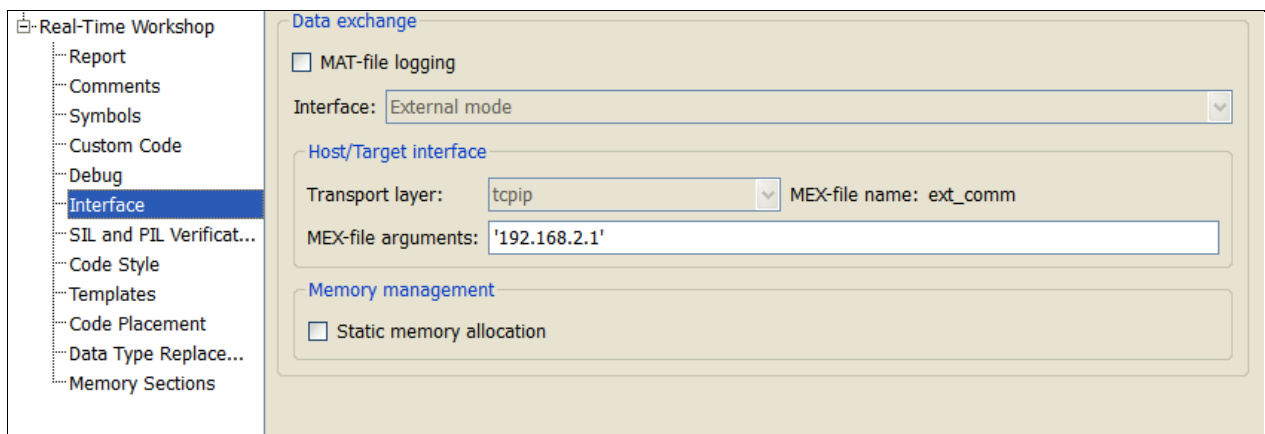

Figure 22 - Defining the RPI IP address
2. Open "Simulation->Configuration Parameters..." and go to the "Real-Time Workshop->Interface" pane. In the "MEX-file arguments" field, enter the IP address of your Raspberry pi as shown in Figure 22. Click "OK" button. Note that the single quotes around the IP address are mandatory.